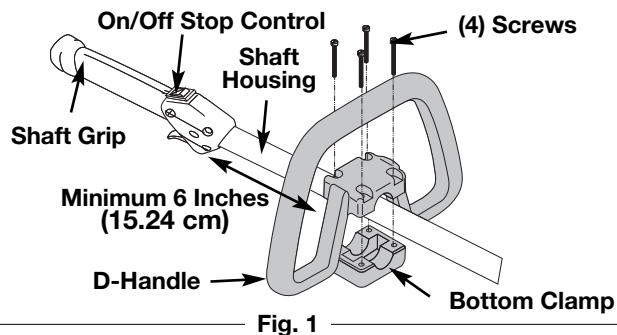

Fig. 1
WARNING: DO NOT ATTEMPT TO USE THIS UNIT UNTIL THE D-HANDLE HAS BEEN ROTATED INTO OPERATING POSITION (Fig. 1).
1. Loosen the screws on the D-handle (Fig. 1).